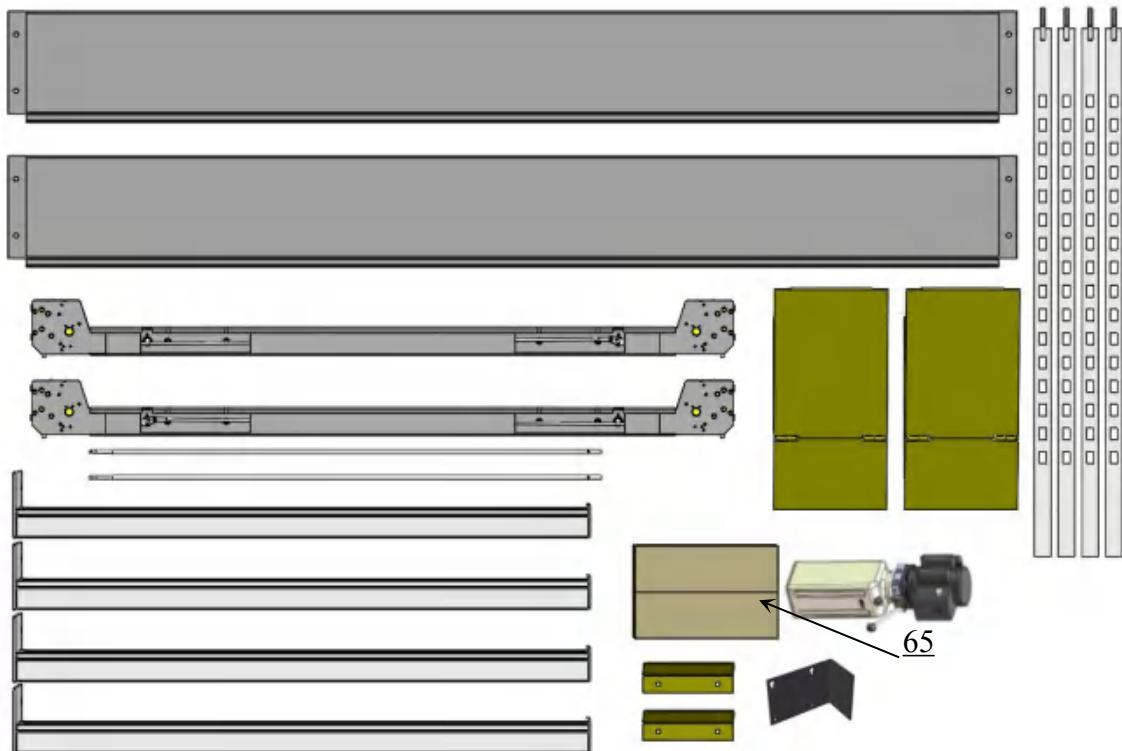

Fig. 11
5. Move aside all the parts to the installation position and check the parts according to the parts list (See Fig. 11).